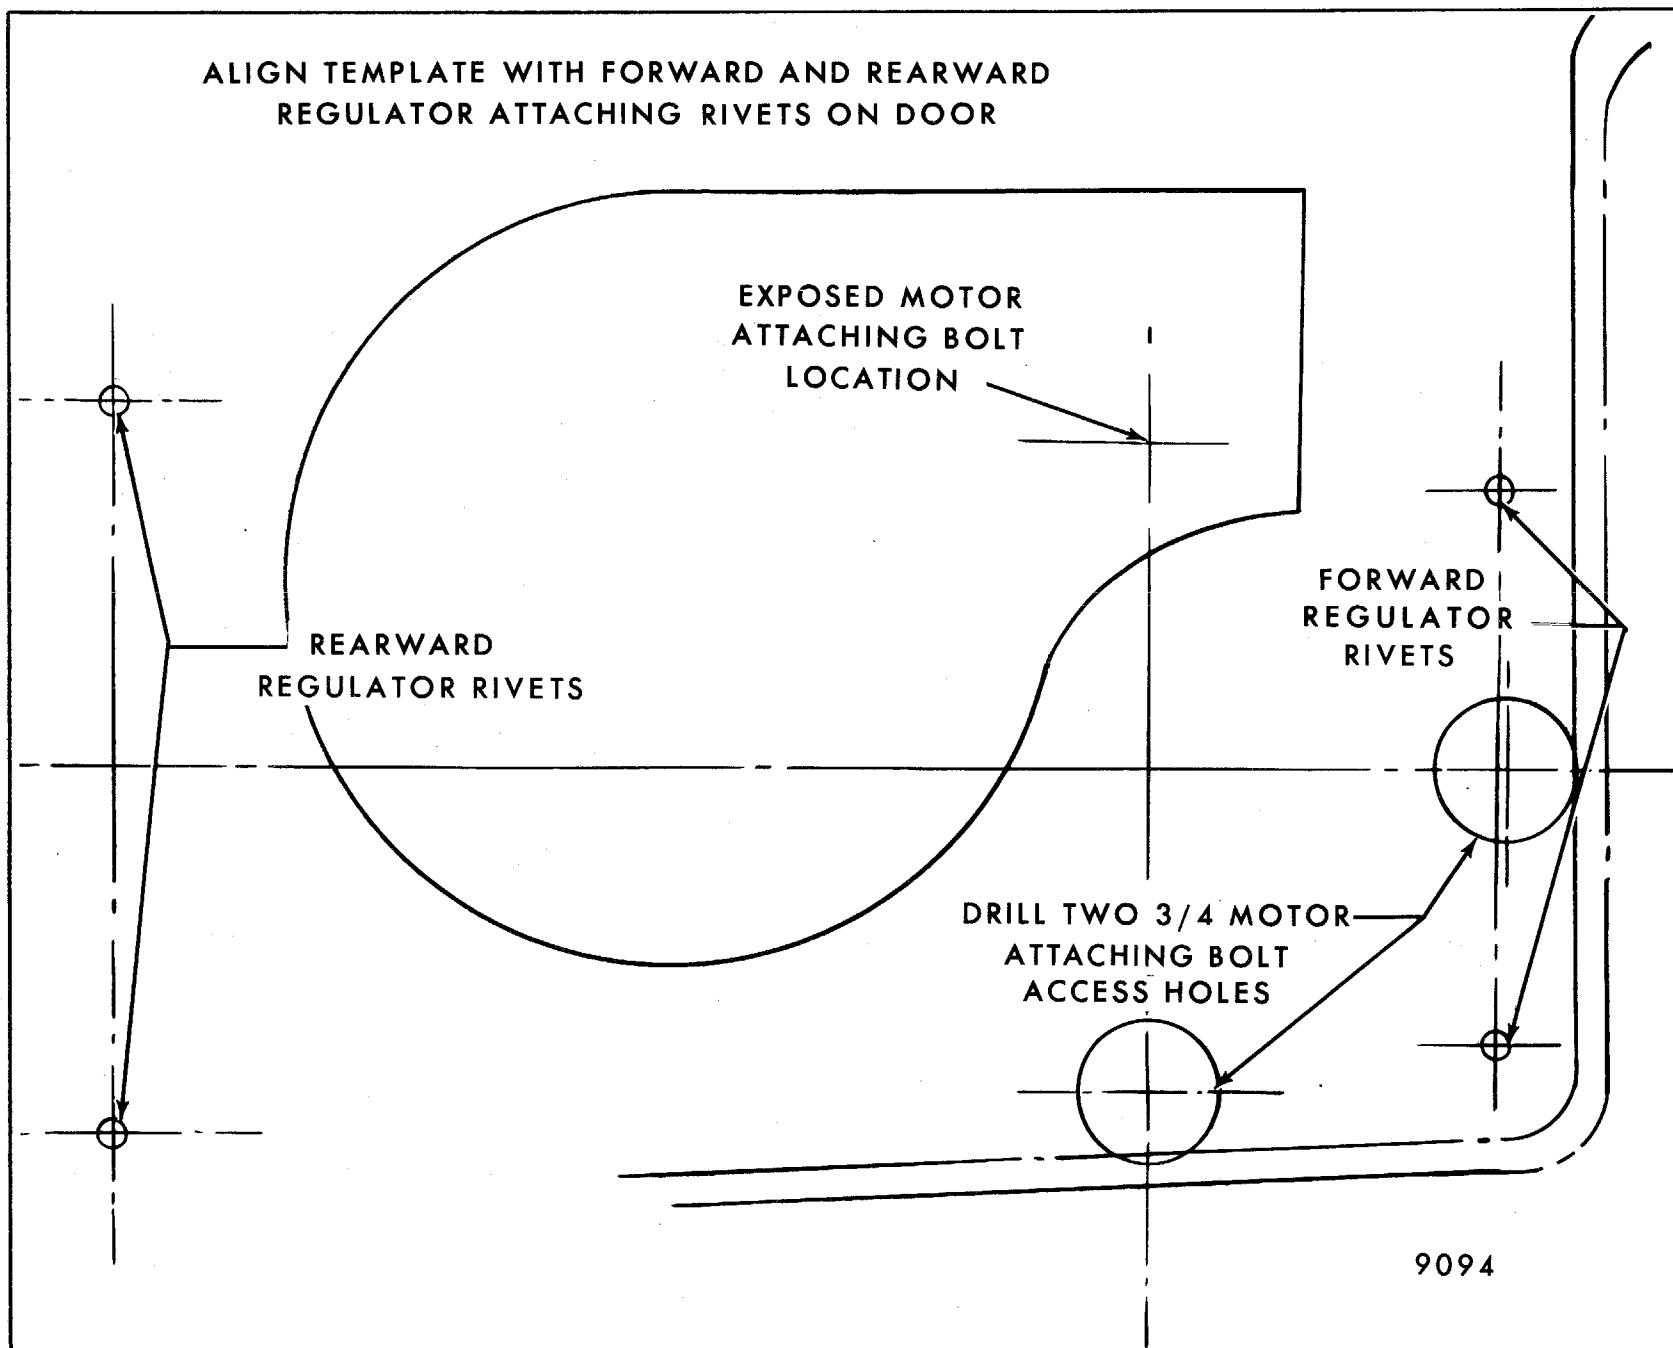

Fig. 5-57-Window Regulator Reference Points for Locating Window Motor to Regulator Attaching Bolts - "A" Styles, Rear Door
3. For all except "B and C" styles and "A" style front doors, refer to Figures 5-57 through 5-63 and select the appropriate template for locating window motor to regulator attaching bolts by using window regulator to door inner panel attaching rivets as reference points.